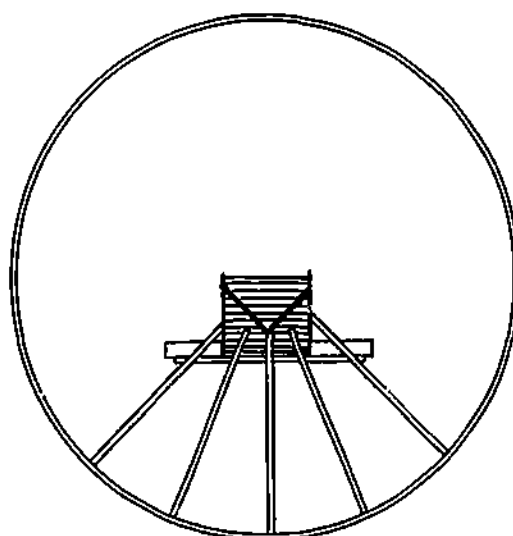

Figure 12-26. Primary Circle Beam Erection
- Step 4. Replace the load line in the boom sheave and erect rafters to the circle beam and shell. Ensure the rafters align radially to the centre of the tank, then hold this assembly in place with rope guylines (Figure 12-26).